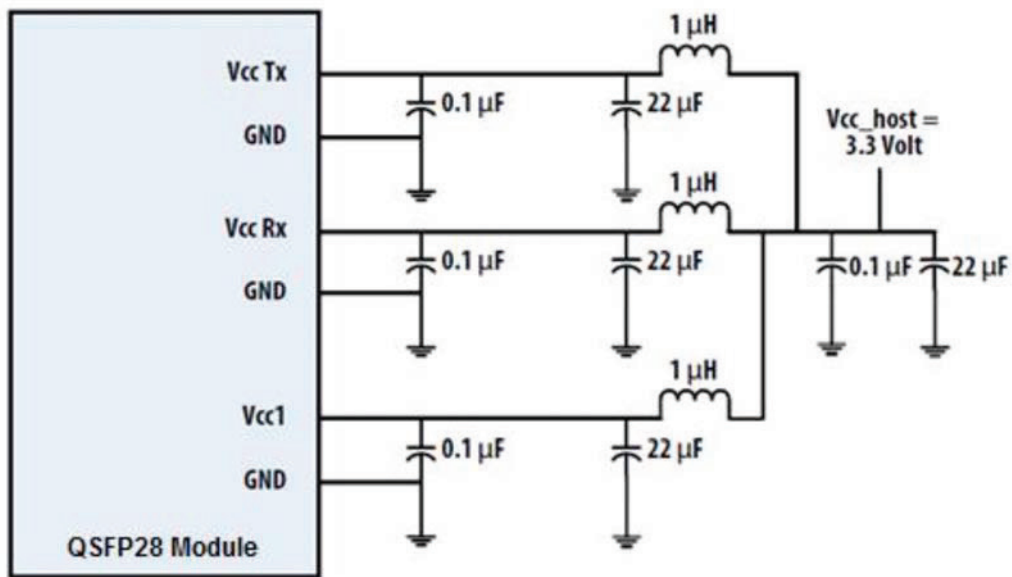

Figure 4. Recommended Power Supply Filter
2. VccRx, Vcc1 and VccTx are the receiver and transmitter power suppliers and shall be applied concurrently. Recommended host board power supply filtering is shown in Figure 4 below. Vcc Rx, Vcc1 and Vcc Tx may be internally connected within the QSFP28 transceiver module in any combination. The connector pins are each rated for a maximum current of 1000mA